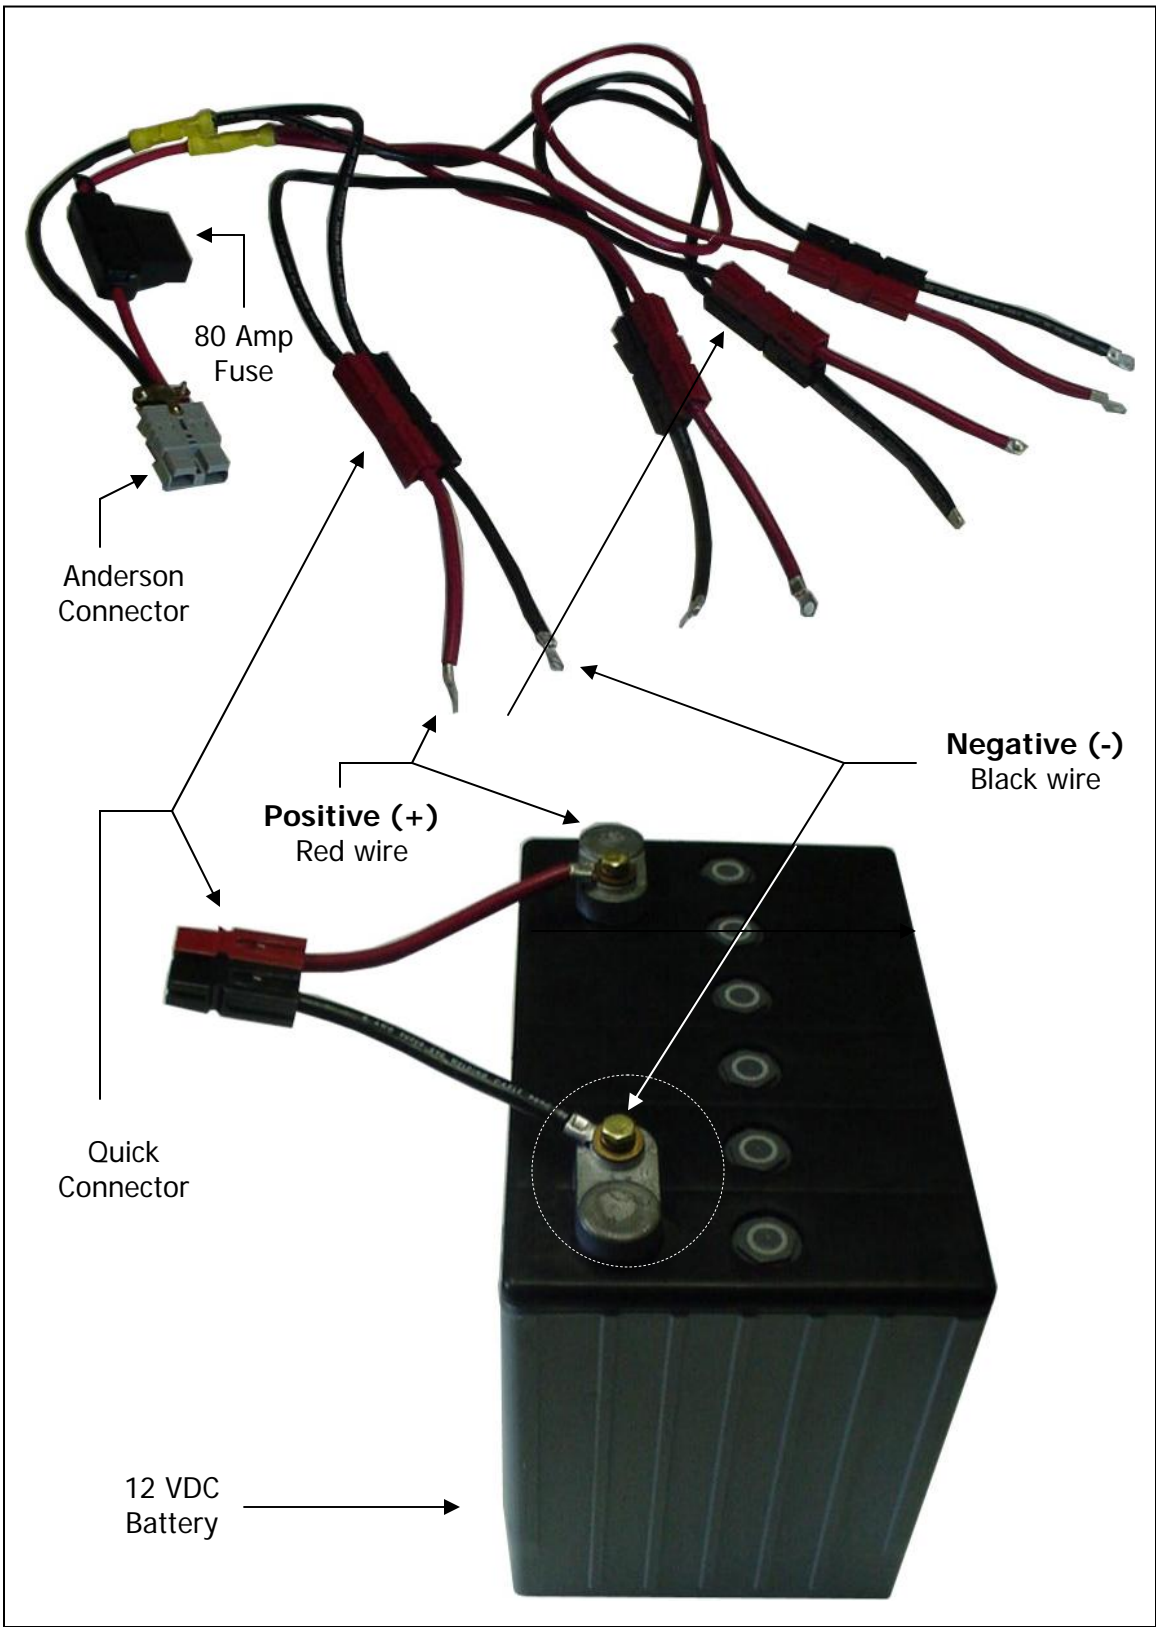

FIGURE 7: AGM battery and quick connector battery cable
- Plug the four quick connectors as shown on Figure 7 on page 16.